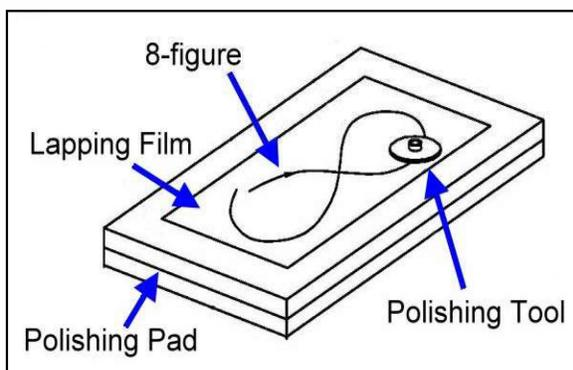

Fig 12
Step 11 Polish the end of the connector by applying light pressure on the connector and move the polishing jig by a Figure-8 motion until the polishing traces caused by protruded fiber disappear. See Fig. 12.